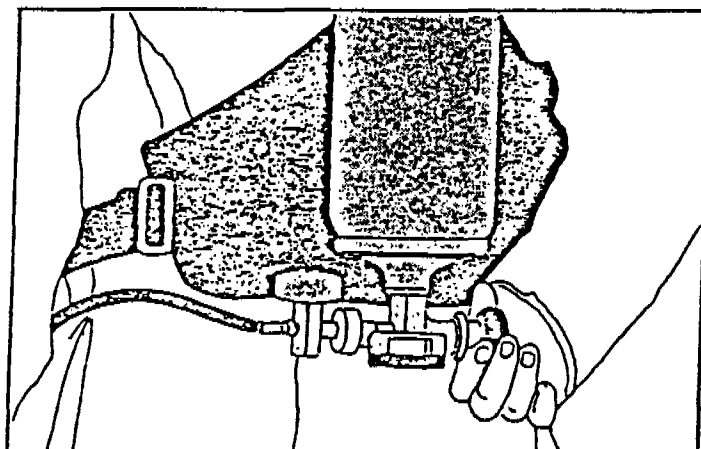

Figure 5
12. Open the cylinder valve (Figure 5) and check the pressure reading on the regulator pressure gauge. A full cylinder should indicate about 4500 psi. Be sure the valve-handle locking ratchet is engaged to prevent accidental valve closure.